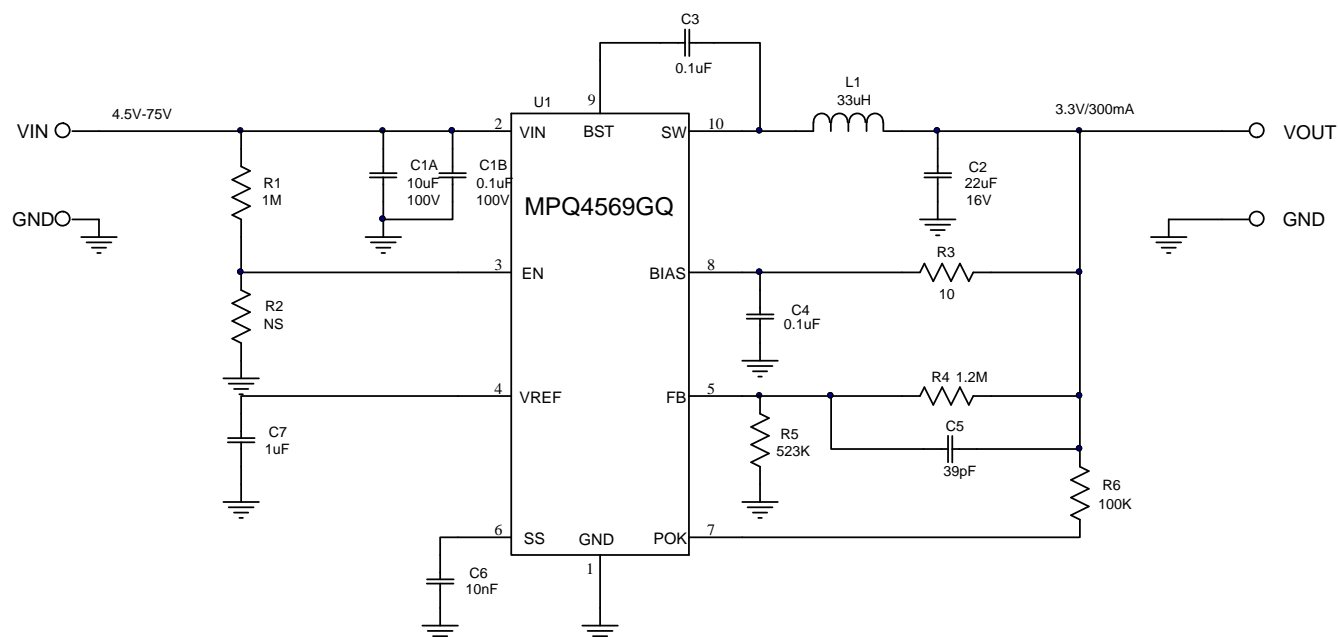

Figure 6 – 3.3V Output Typical Application Circuit of QFN-10 Package
- 7) Take Figure 6 as schematic